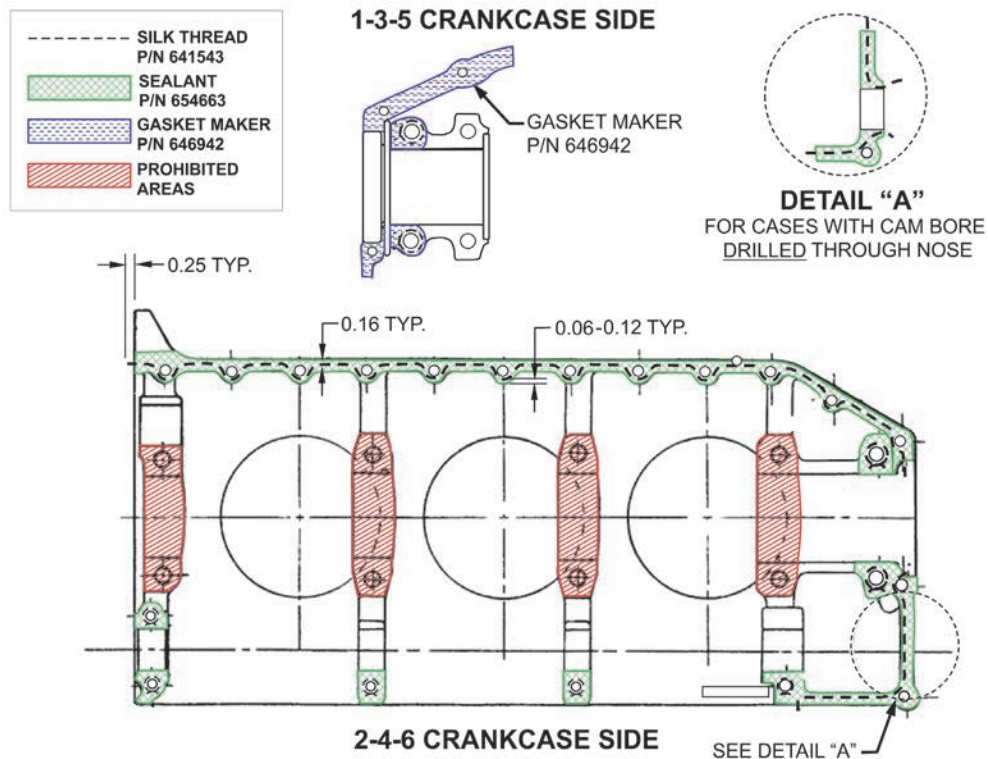

Figure 3-6. Crankcase Threading Diagram - IO360, L/TSIO360
4. Apply and position P/N 641543 (a continuous, single piece of grade "D" silk thread) on the 2-4-6 case half as specified (see Figure 3-6 through Figure 3-9). Ensure the free ends of the thread will be covered by gasket material (except at the nose oil seal).